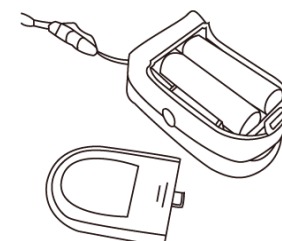

Figure 5 Batteries installation
- Step 1. Refer to Figure 5, and insert the two AAA size batteries properly in the right direction.